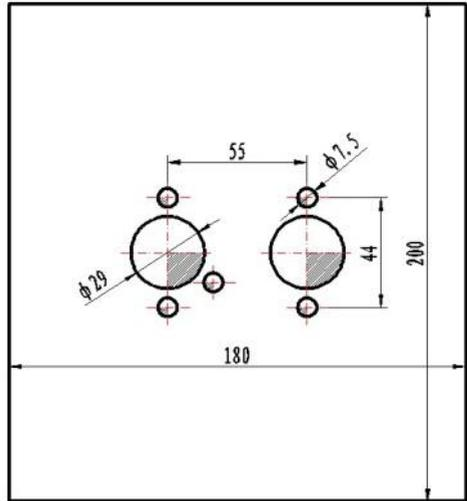

Fig 12
4.2.4 If the sickness of the installation panel < 1.5mm a mounting plate may need. Between mounting plate and the car body must also be sealed (use glass glue (Fig.12)).